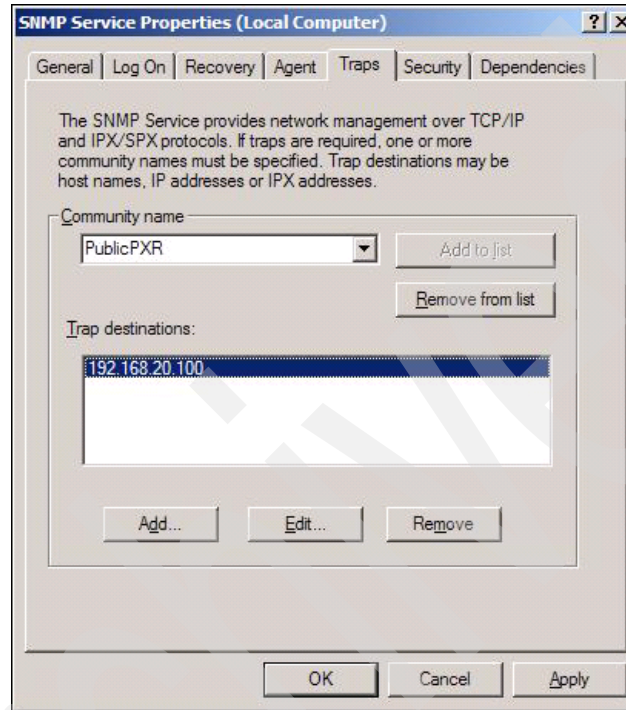

Figure 10-8 Entering the IP address
- c. Enter the IP address of the IBM Systems Director Server to the “Trap destinations” list on the Traps tab of the SNMP Service properties page as shown in Figure 10-8. Click **OK**.